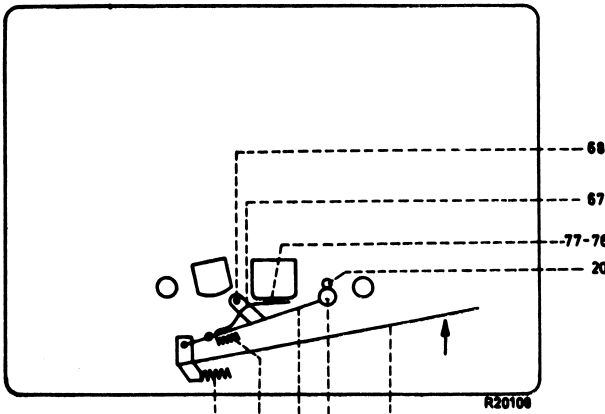

Fig. 2
During recording and playback the tape transport takes place from the left-hand winding disc 40 to the right-hand winding disc 41. By depressing the key 31 the bracket 34 is pressed forward. By this, the pressure roller 72 is pressed against the capstan 20 by means of the pin at the pressure roller lever 73, fig. 2.